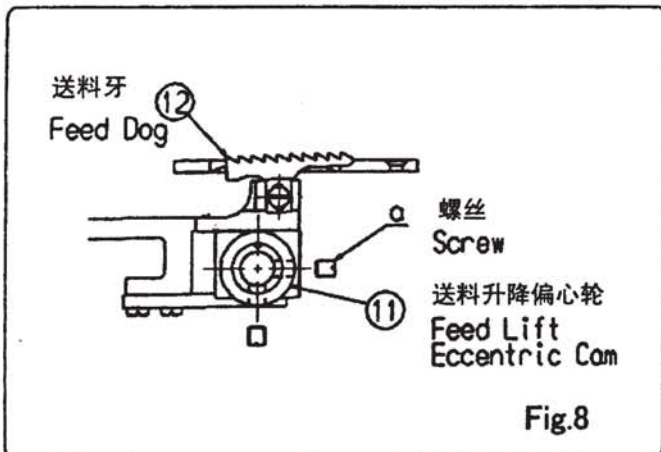

Fig.8
Loosen set screw of Feed Lift Eccentric Cam ⑪ of Fig.8, and place eccentricity of Feed Lift Eccentric Cam ⑪ at its highest position, or Feed Dog ⑫ to its maximum height, when Needle Bar ⑩ is in highest position. Firmly tighten set screw (a) after adjustment.
针杆⑩位于最高点时, 如图所示Fig.8, 送料上下轮⑪的偏心位置位于最高点, 也就是送料齿⑫位于针板上面最高点时, 锁紧送料轮之调节螺丝a。